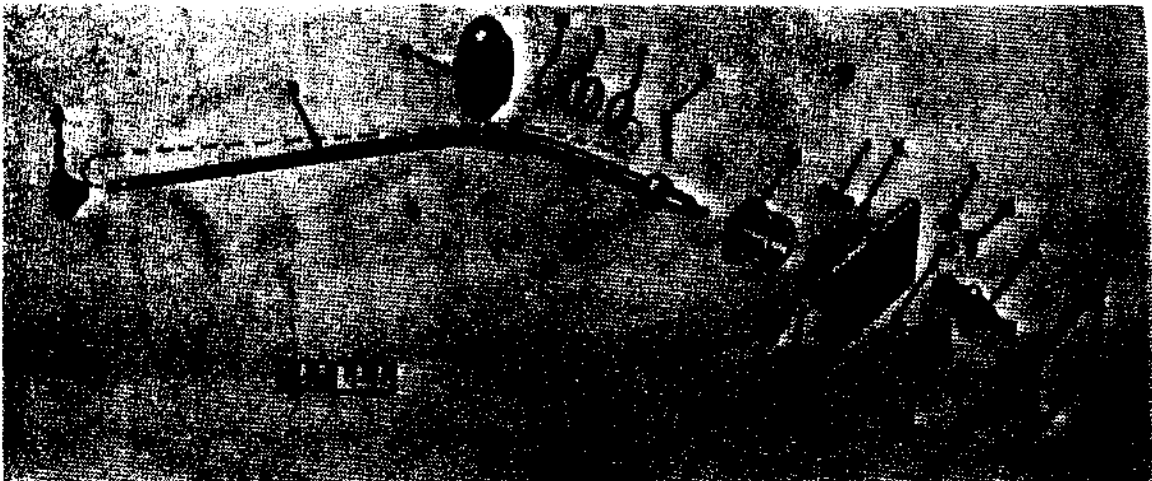

Figure 273. Shifter housing cover assembly
(2) Shifter housing cover assembly (fig. 273).
- (a) Place shoulder bolt (Q) through-finger (N) and through housing cover (S). Install lockwasher (R) and hex-nut (L) and tighten securely.
- (b) Place shifter lever (B) in lever retainer (H) and install pivot pin (G).